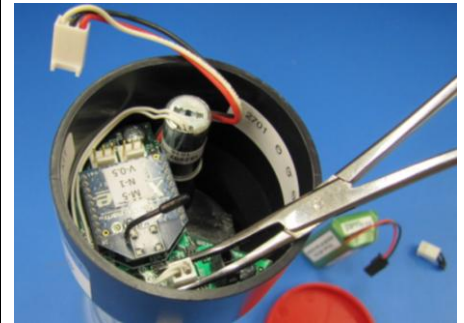

Figure 5
5. For RF1 Modules disconnect the two-wire solenoid connector from the circuit board. Note: RF5 Zero modules will not have this connector, so this step may be skipped if the circuit board and chip are being replaced on an RF5 Zero module. Refer to Figure 5.